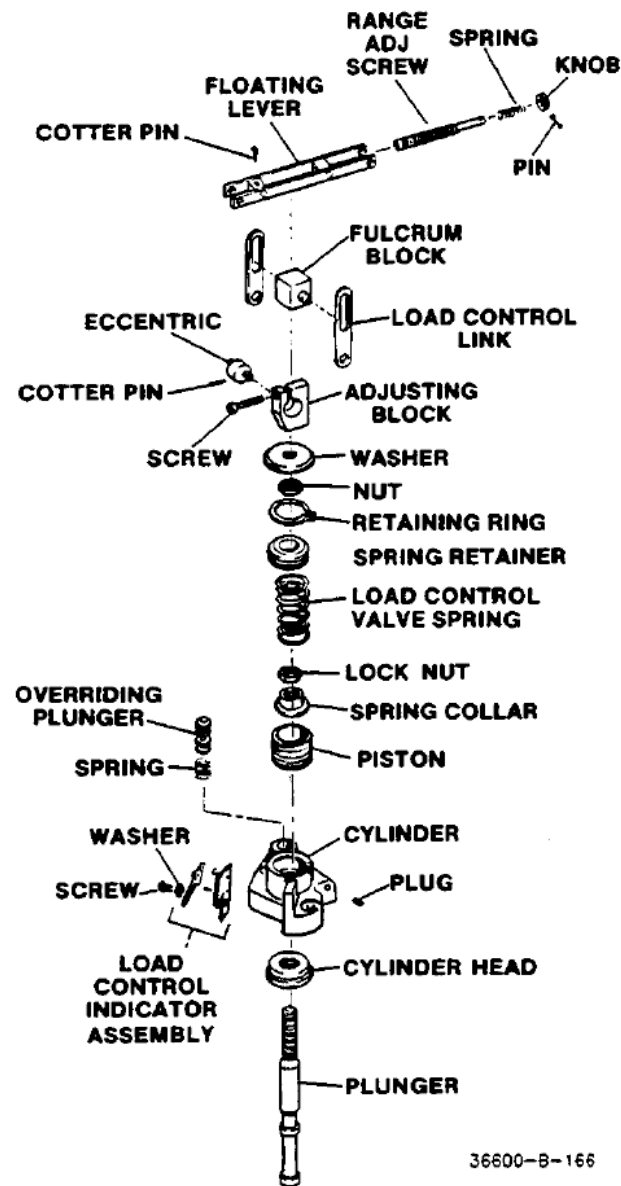

Figure 5-52. Load Control Pilot Valve Assembly
- Press the cylinder head into cylinder, (Figure 5-52).